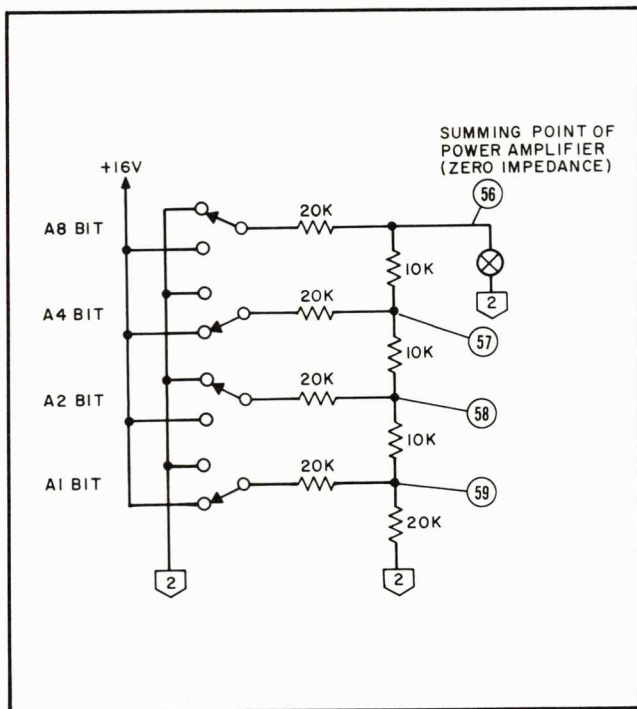

Figure 4-5. Ladder Network, Simplified Schematic
4-80 The bit switch network consists of a driver, Q1, and two low-saturation switching transistors, Q2 and Q3. With a voltage program input of +4.000V, the digit A circuits receive a nines complemented input of 5 (0101). The low (binary 0) at the base of A3A16Q1 is inverted, and through steering diode CR2 causes switch Q3 to conduct, placing a ground on the bit 8 input to the analog ladder network at TP56. The high (binary 1) input at the base of A3A15Q1 is inverted, and through steering diode CR1, causes Q2 to conduct, placing a +16 volt level on the bit 4 input to the ladder network (TP57). The remaining digit A switches produce a ground and a +16 volt level at their respective ladder network inputs. In the simplified schematic of Figure 4-5, the switching transistors are represented by mechanical switches connecting each of the four rungs of the analog ladder network to either +16 volts or ground (2). Again, the switch positions represent the BCD input of 0101, the four most significant bits of the nines complemented input of 4.000 volts.
4-83 Potentiometers A3R52 through A3R59 are adjusted to compensate for the conducting resistances of Q2-Q3 and resistance tolerances within the network. With these controls properly adjusted, the total series resistance in each rung is 20K Ω as shown in Figures 4-5 and 4-6. Notice that the output current of each of the four ladder networks is weighted in powers of 10. Thus, resistor A3R92 divides the digit B output current by 10, resistors A3R93 and A3R94 divide the digit C output current by 100, and resistors A3R95 and A3R96 divide the digit D output current by 1000.